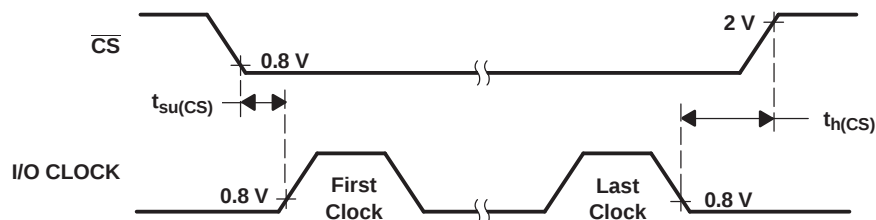

Figure 5. I/O CLOCK Setup and Hold Time Voltage Waveforms
| $t_{h(CS)}$ , see Figure 5          | Hold time, $\overline{CS}$ low after last I/O CLOCK $\downarrow$     |                           | 0     |          |                | ns      |
| $t_{su(CS)}$ , see (2) and Figure 5 | Setup time, $\overline{CS}$ low before clocking in first address bit |                           | 1.425 |          |                | $\mu$ s |